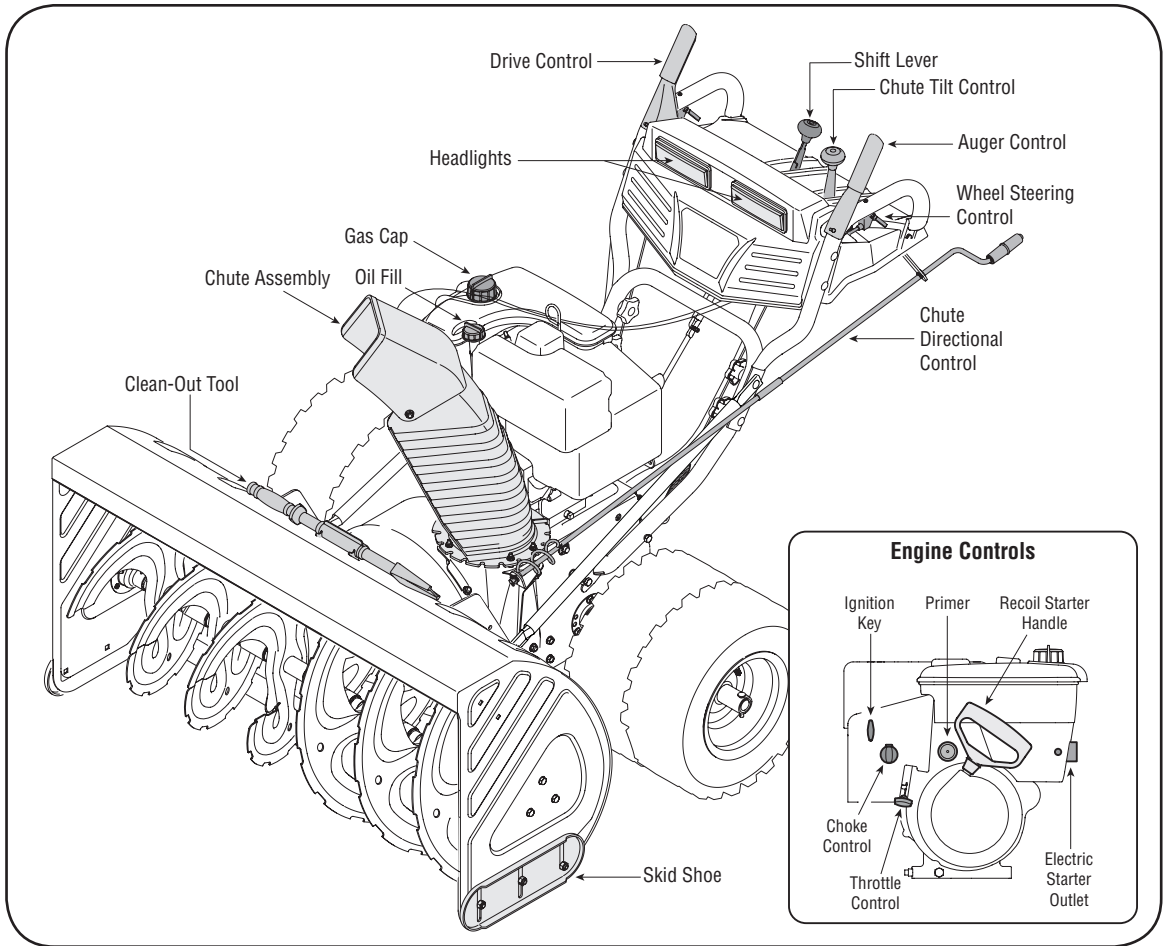

Figure 4-1
3. To turn the unit left or right, squeeze the respective wheel steering control. See Figure 4-1.